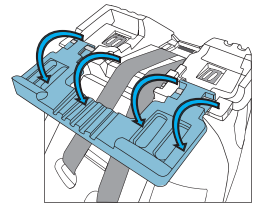

Figure 2
Step 2: Then rotate the Recline Foot to the first position (see Figure 2).